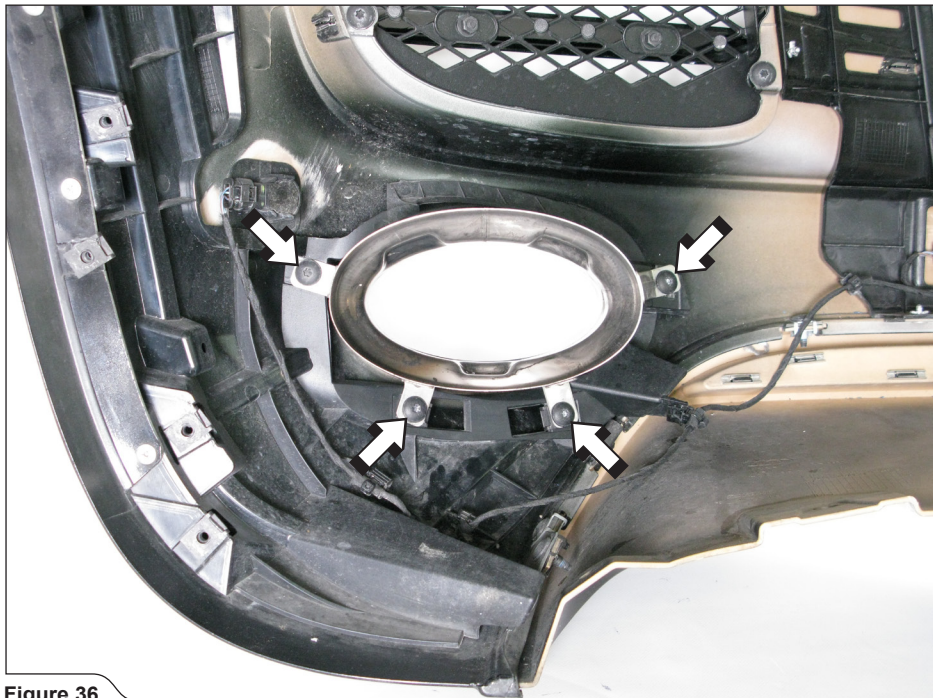

Figure 36
27. **For R8 model only:** Unscrew and remove both tail pipes off the bumper trim panel (**Figure 36**).